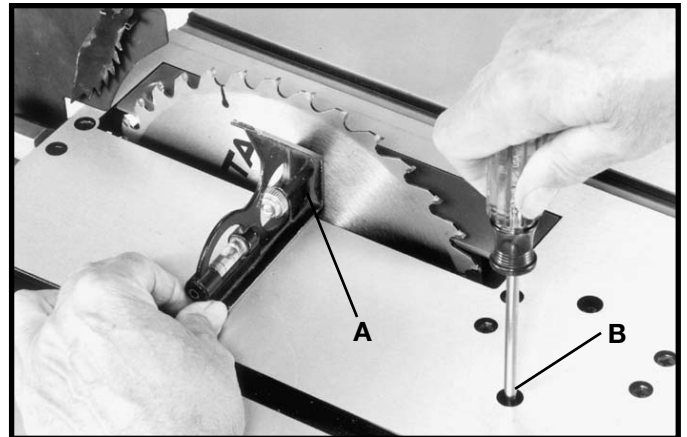

Fig. 46
4. Place a square (A) Fig. 46, on the table with one end of the square against the blade, as shown, and check to see if the blade is at 90 degrees to the table. If it is not, loosen screw (B) a few turns and move the blade tilting mechanism until the blade is at 90 degrees to the table. Then tighten blade tilting lock handle and tighten screw (B) until it bottoms.